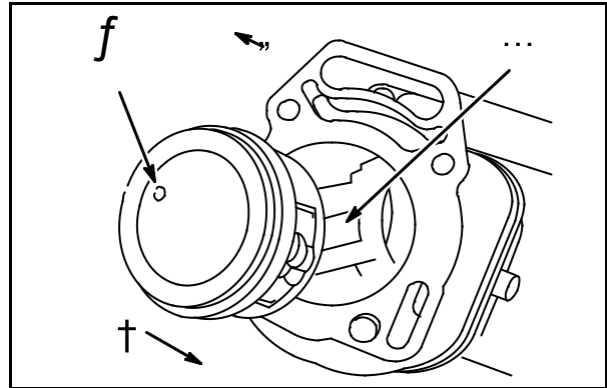

Fig. 3
Install #1 piston with notch or offset casting mark (3) toward the FLYWHEEL SIDE of the engine (4), **Fig. 3**. Push piston down by hand until connecting rod is seated on crankpin.